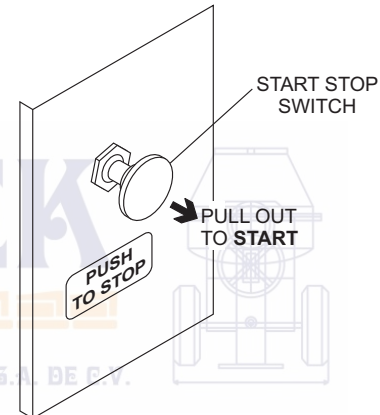

Figure 20. Main ON/OFF Switch
5. Located on the engine cover is the **engine start/stop** switch (Figure 20). Pull this switch outward to start the engine.